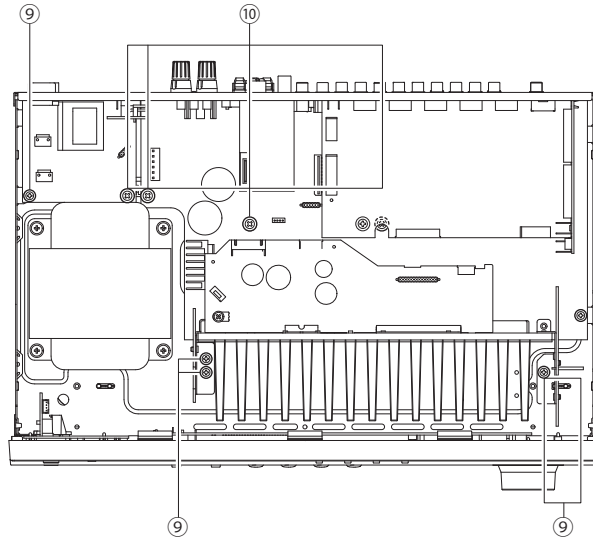

Fig. 4
- c. Remove 5 screws (⑨) and 4 screws (⑩). (Fig. 4)